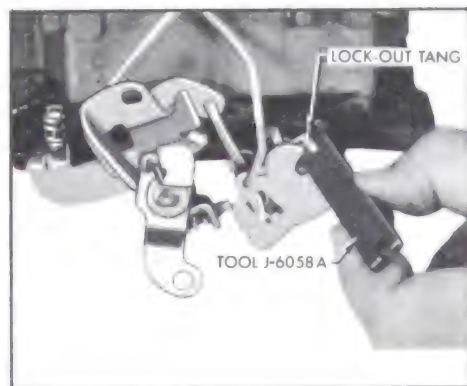

Figure 3-66—Adjusting Secondary Contour
8. If clearance between tang and contour is not correct, bend tang as required to obtain this clearance using Tool J-6058A. See Figure 3-66.